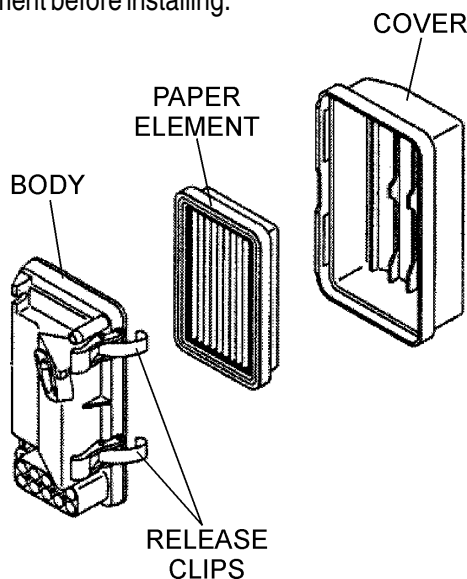

Figure 29. Engine Air Cleaner
- Remove the air cleaner cover and foam filter element as shown in Figure 29.